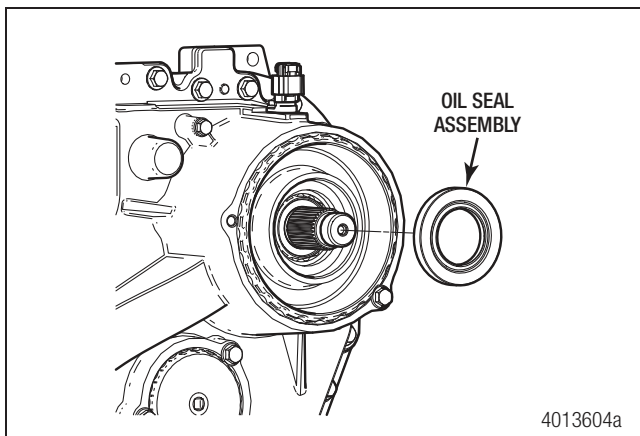

Figure 7.46
6. Use the appropriate driver and hammer to install the oil seal assembly on the bearing cage. Figure 7.46.